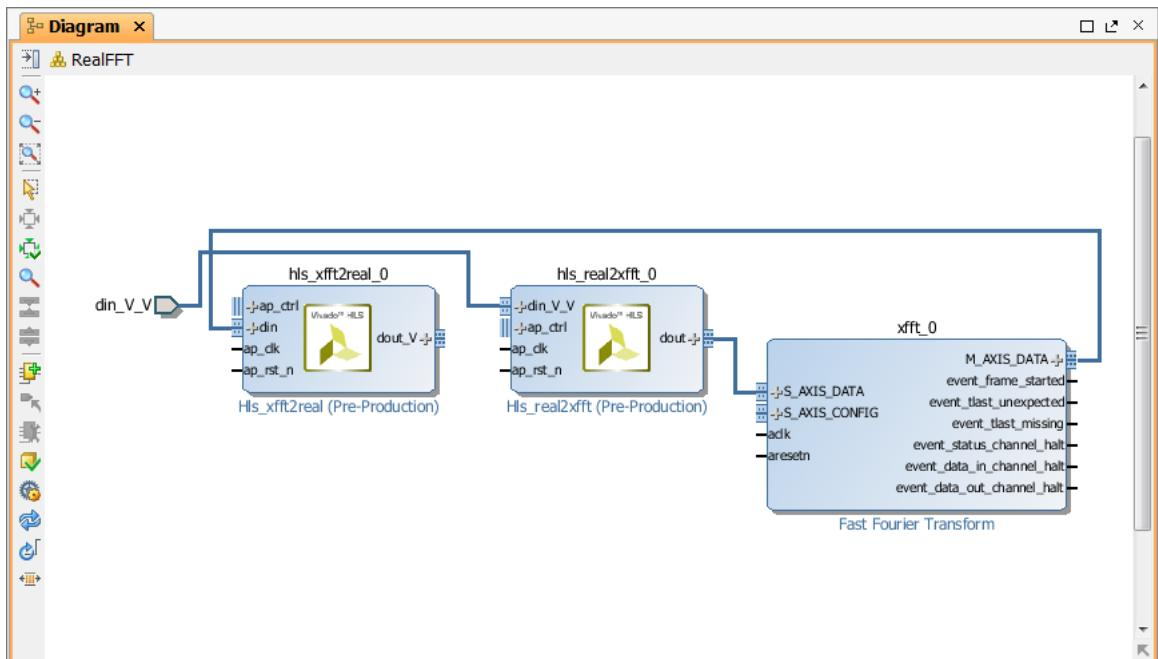

Figure 9-18: Make External Connections
- Right-click the `din_V_V` interface connector on the **hls_real2xfft** block and select **Make External** (Figure 9-18).